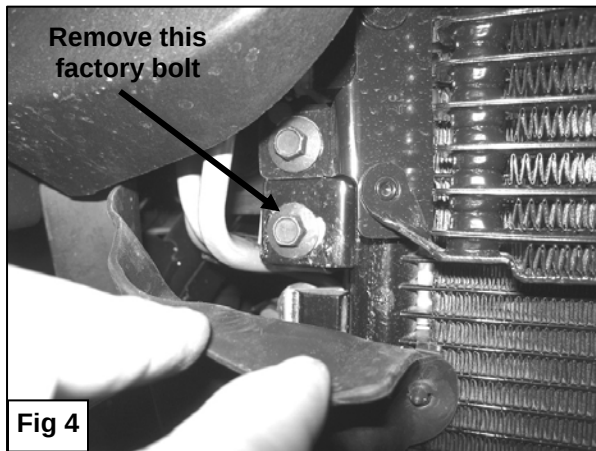

Fig 4
6. Slightly pull down on the rubber shroud located on the passenger lower part of the radiator to expose the two factory bolts located behind the radiator metal lines. Remove the bottom factory bolt **(Figure 4)**.